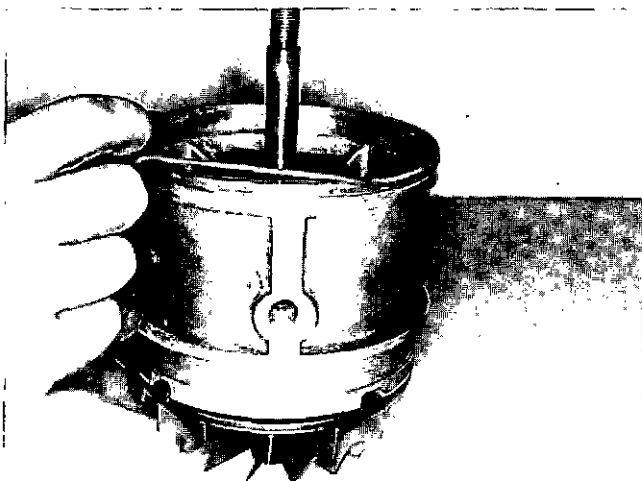

Fig. 3-15, (VTST40). Installing the O-ring onto the bearing housing
8. Lubricate the new O-ring with clean engine oil. Install the new O-ring in the groove of the bearing housing, Fig. 3-15.